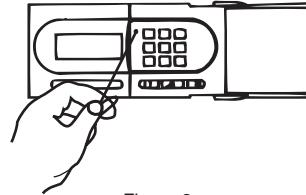

Figure 3
Press the reset button to reset and start the clock. Use a thin probe such as a straightened paper clip to gently push the reset button through the hole in the front panel. (See Figure 3.) The LCD display should read 12:00 AM, indicate the day of week as Monday (MO), the current room temperature of your house. If it shows random numbers or partial digits, press the reset button once again.